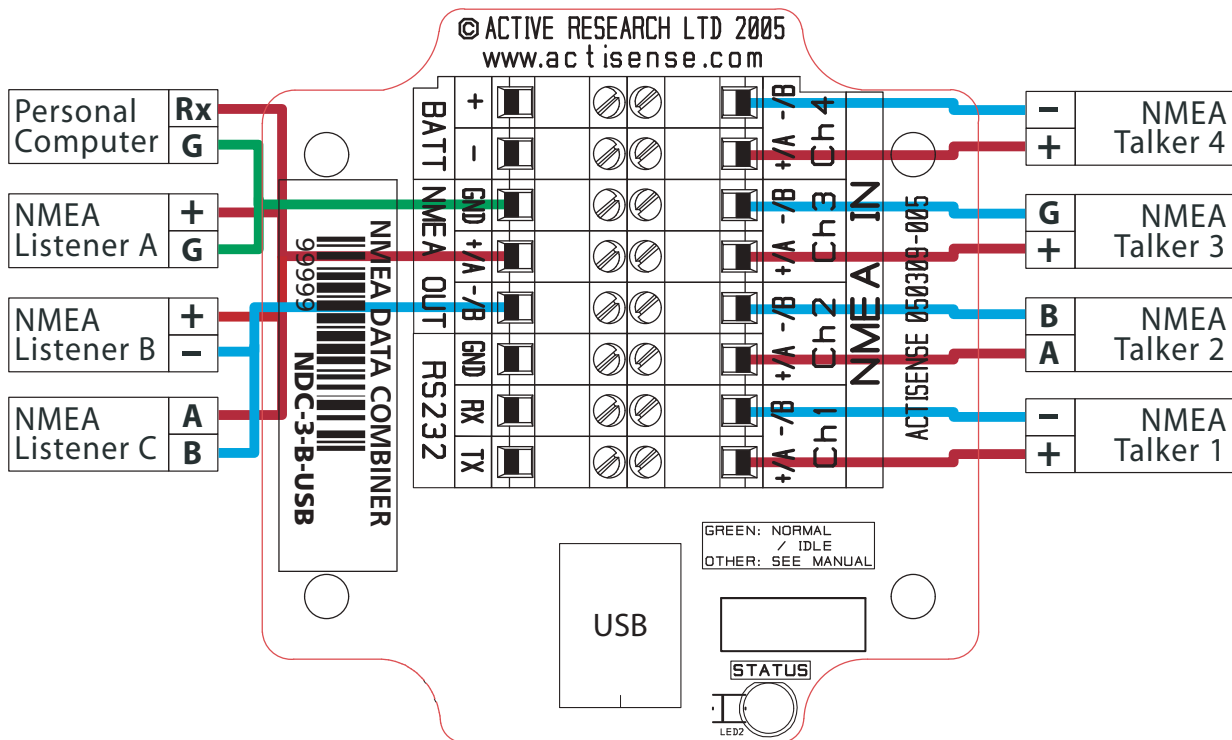

Figure 2 – NMEA 0183 connections
**NMEA Talker devices 1, 2 and 4:** These devices conform in full to the NMEA 0183 standard. Devices 1 and 4 share the same connection ID's as the **Actisense™** NDC, so connection is a simple matter of matching the ID's (refer to figure 2). Device 2 uses the RS485 convention connection ID's. Simply connect 'A' to '+/A' and 'B' to '-/B' (refer to figure 2).